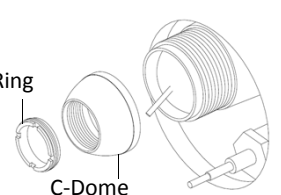
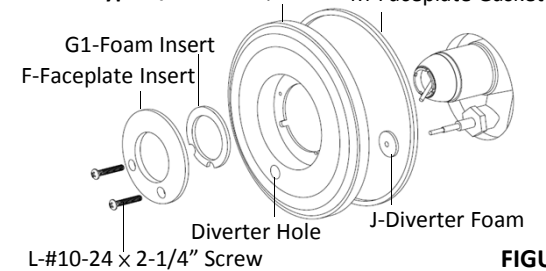

FIGURE 5
FIGURE 6
3. Locate the faceplate. If the valve uses a diverter, remove the diverter plug (figure 5).
Valve types A & B use the same faceplate insert (figure 5). Valve type C uses the faceplate insert with the larger inner opening (figure 6). Using the foam insert included (note two different sizes), remove backing paper and adhere to the back of the correct faceplate insert. Snap the faceplate insert into the faceplate. Firmly press faceplate insert into faceplate. **Note:** The tabs on the faceplate insert will align with the slots on the faceplate.